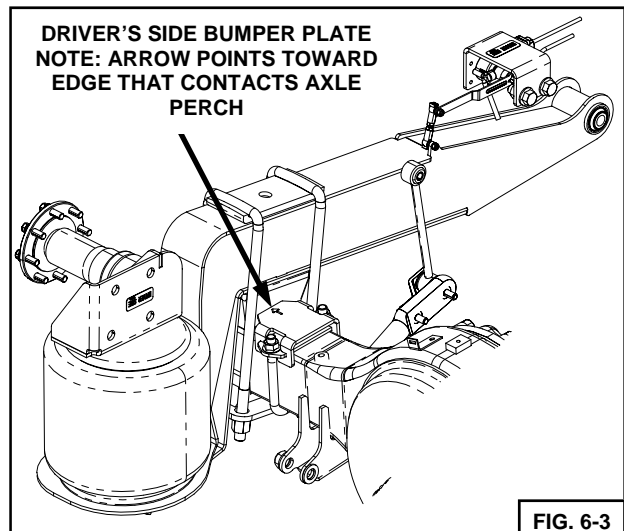

FIG. 6-3
4. Attach the Driver's Side bumper plate to the axle using (1) 5/8" UNF X 6.25" u-bolt and (2) 5/8" UNF Flange nuts. (See Figure 6-3.) (Torque to 100-130 FT-LBS.)